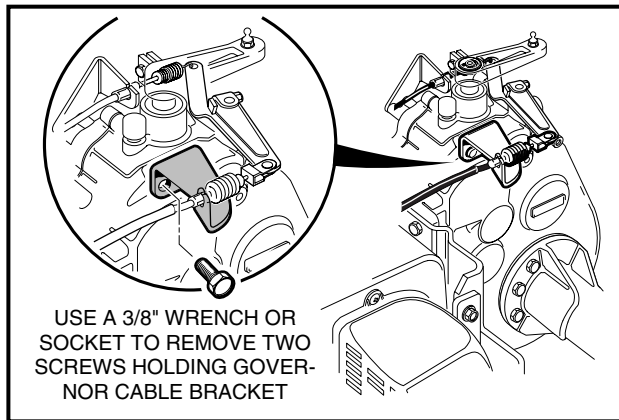

FIGURE 10-33
17. Use a 3/8" socket to remove the screws securing the governor cable bracket to the transaxle (**Figure 10-33**).